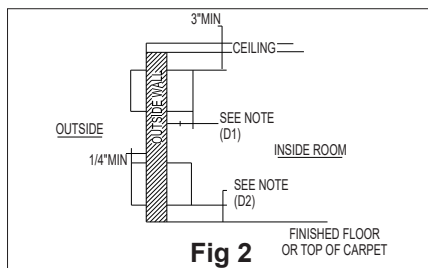

Fig 2
- There should be sufficient space margins around the unit to facilitate maintenance and repairs (refer to Figs 2 and 3).